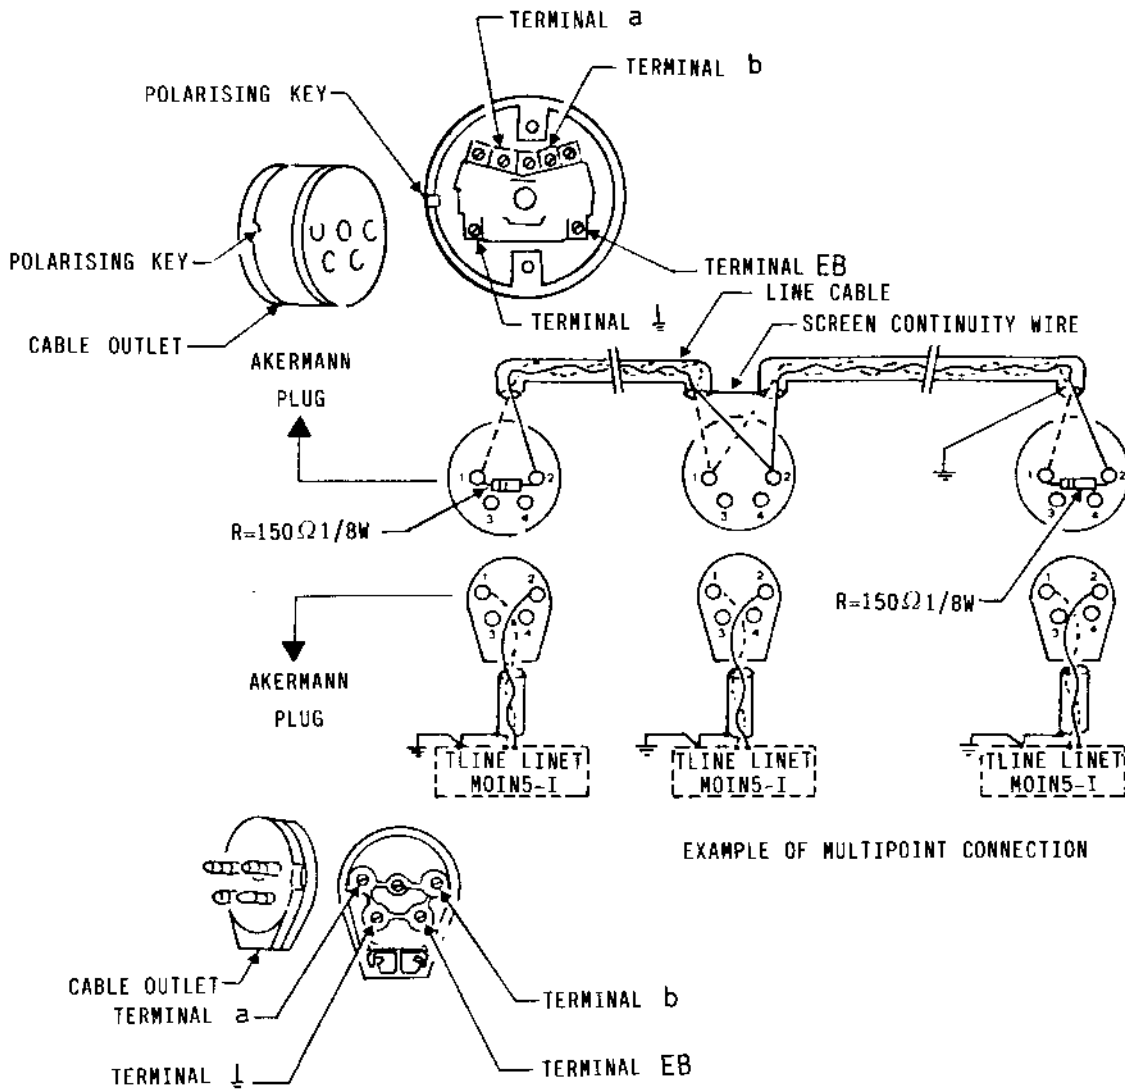

Figure 7-3 - Example of Akermann plug and socket connections
- The white wire shown in Figure 7-3 as a dotted line ("TLINE" logic signal) to terminal a.
- The black/white wire shown in Figure 7-3 as a continuous line ("LINET" logic signal) to terminal b.